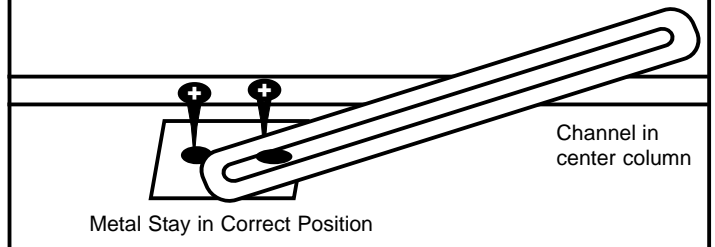

FIG 2
STEP 2. Attaching Metal Stay [J] to Easel. **MAKE SURE** Positioning of metal stay [J] is **CORRECT** as shown below in FIG. 2. Align holes in metal stay with pre-tapped holes in center column. Attach using 2 ea. ½" wood screws [E] and tighten.